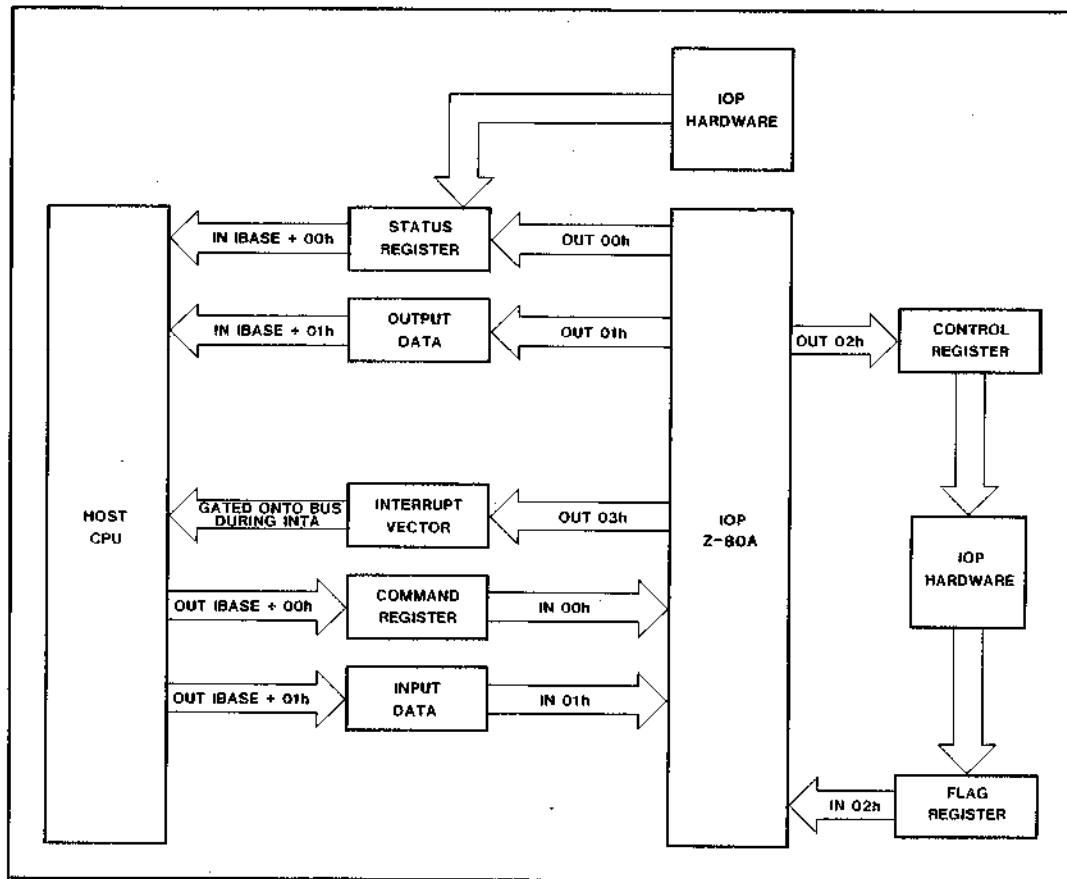

Figure 11: IOP REGISTER ACCESS
Seven internal IOP registers are provided to: (1) exchange data, status and commands between the IOP Z-80A and the host processor, (2) supply interrupt vectors in response to Interrupt Acknowledge cycles from the host processor, and (3) manage C-Bus DMA requests and acknowledgments. The IOP Z-80A has input/output access to all seven registers, while the host processor has direct input/output access to only four: **Status Register**, **Output Data**, **Command Register**, and **Input Data** (see manual overleaf for register summary). The port addresses of these seven registers are fixed in the internal IOP I/O map (IN 00h - IN 02h, and OUT 00h - OUT 03h), but are switch located in the S-100 bus I/O map. This arrangement is illustrated in Figure 11.